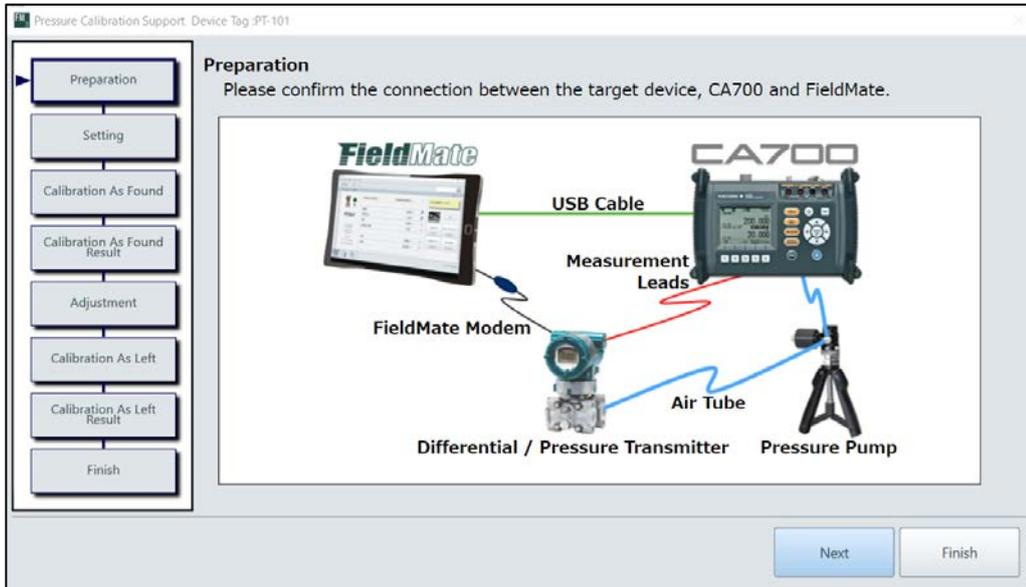

Figure S-2-2 Preparation dialog
2. Connect instruments according to Figure S-2-2.